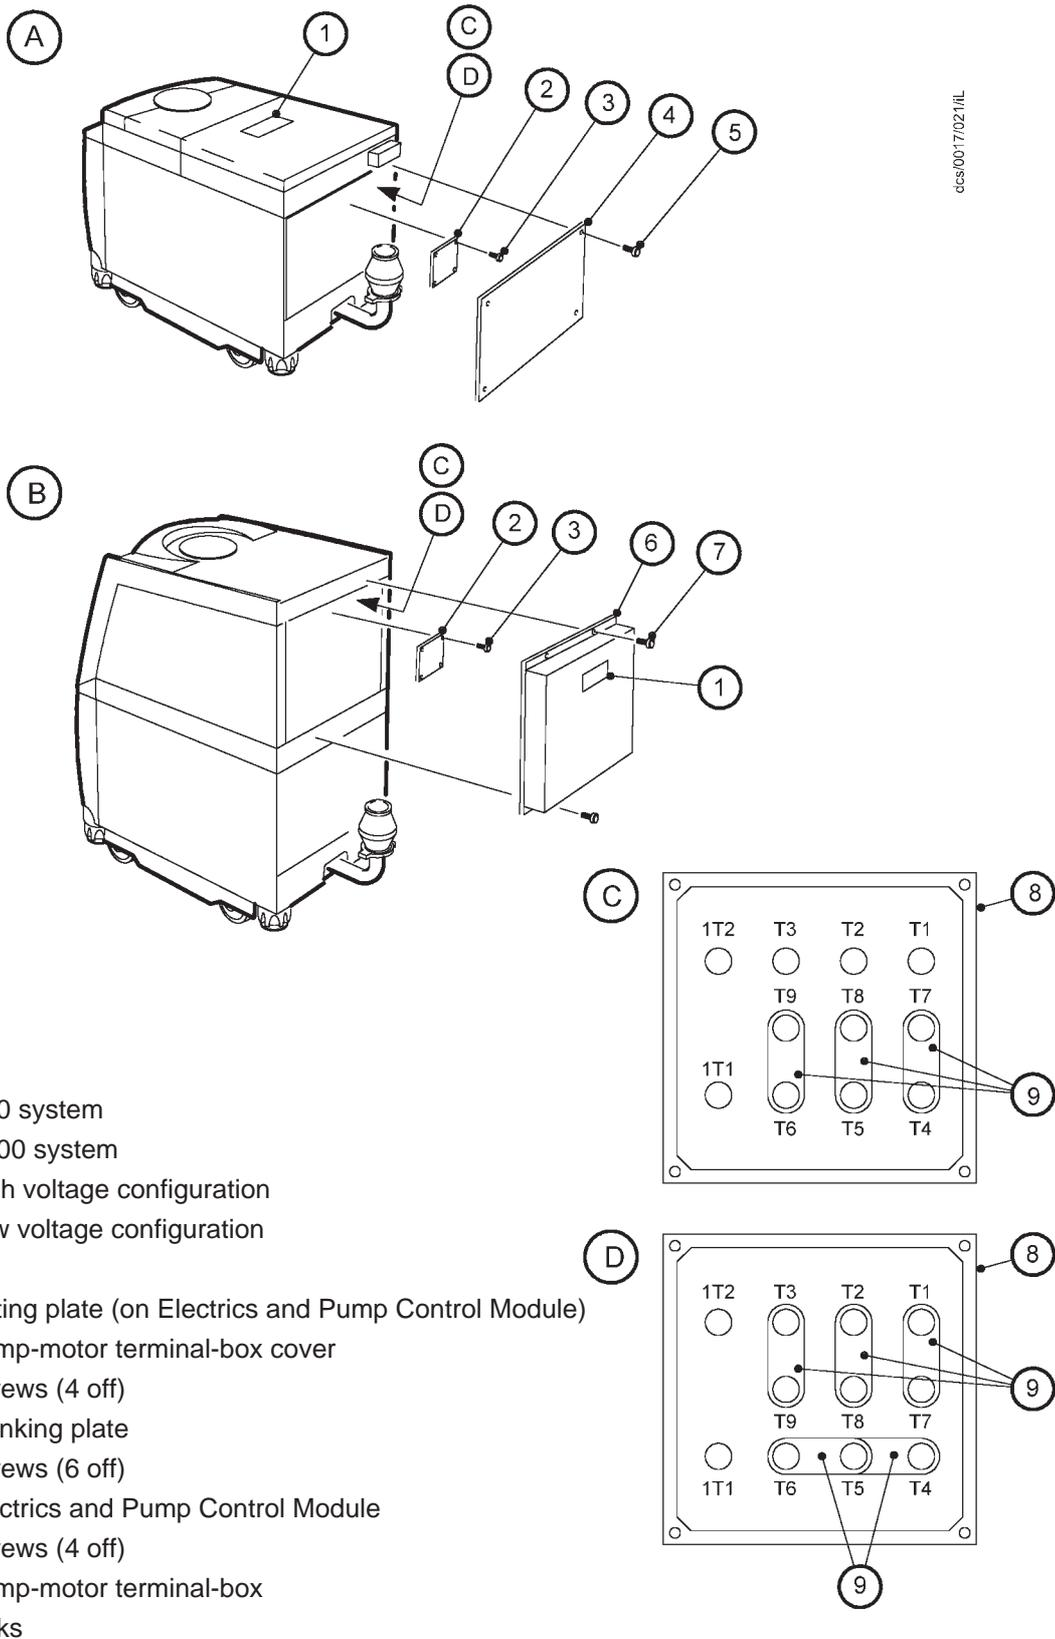

Figure 3-9 - Reconfigure the pump-motor terminal-box (if necessary)
Your iL system will be supplied correctly configured for your electrical supply; the Item Number of the iL system (shown on the rating plate: Figure 3-9, item 1) specifies how the system is configured: refer to Section 2.11.
1. Refer to Figure 3-9 detail A. Undo and remove the six screws (5) which secure the blanking plate (4) over the LCDP pump-motor, and remove the blanking plate.
2. Undo and remove the four screws (3) which secure the cover (2) to the LCDP pump-motor terminal-box.
3. Look at the links in the terminal-box (8):
- For high voltage operation (380-415 V at 50 Hz or 460 V at 60 Hz), ensure that the links (9) are in the positions shown in detail C.
- For low voltage operation (200-208 V at 50 Hz or 200-230 V at 60 Hz), ensure that the links (9) are in the positions shown in detail D.
4. Refer to detail A. Refit the cover (2) to the LCDP pump-motor terminal-box and secure with the four screws (3).
5. Refit the blanking plate (4) and secure with the six screws (5).
6. Remove the rating label (1) from the Electrics Module. (This label now shows the incorrect electrical supply information for the reconfigured pump.)